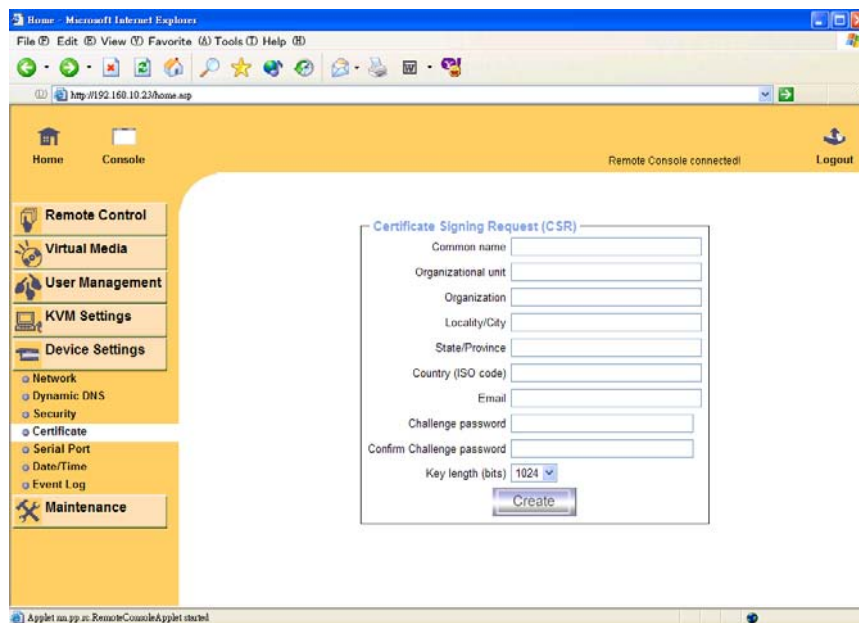

Figure 6-13: Certificate Settings
- Create an SSL Certificate Signing Request using the panel shown in Figure 6-13. Complete the fields on the page. The fields are explained below. Once completed, click on the “Create” button which will initiate the Certificate Signing Request generation. The CSR can be downloaded to the local machine with the “Download CSR” button (see Figure 6-14).